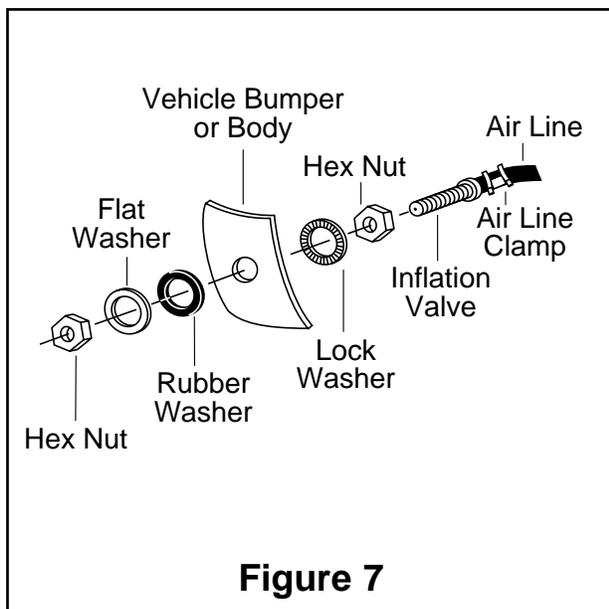

Figure 7
- I. Drill a 5/16" hole for inflation valve and mount as illustrated (Rubber washer is for outside weather seal (Figure 7).
- F. Drill 5/16" hole for inflating valves and mount as illustrated (Rubber washer is for outside weather seal, Figure 7).